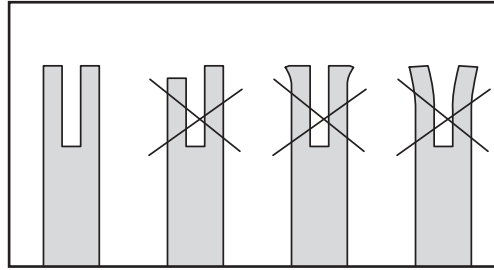

Fig. 39
5. Regularly check the guide bar rail for abnormal wear. Both sides of the rail should remain at the same height when viewed along the rail edge. Abnormal wear as seen in (Fig.39) indicates that the bar needs to be replaced.